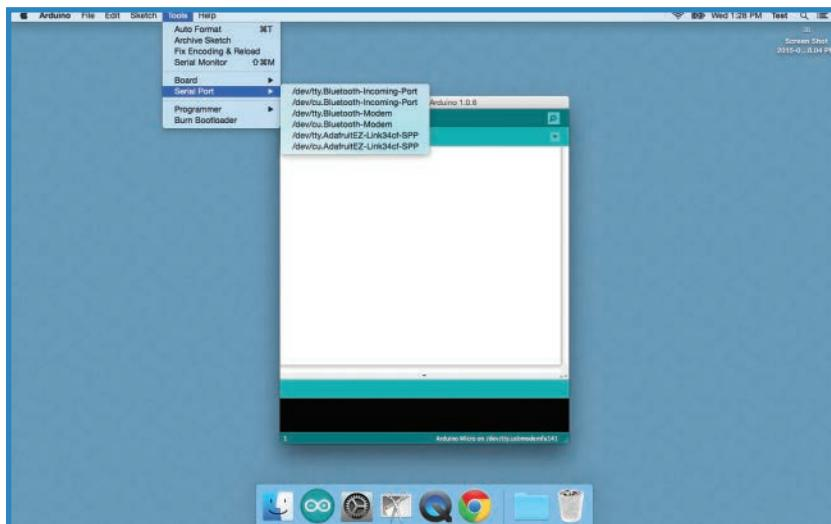

FIGURE 5.8 Choose the port.
- 4.** You'll also have to select a port. That is in the Tools menu as well, as shown in Figure 5.8. You may have to try a couple different ports to find one that works.